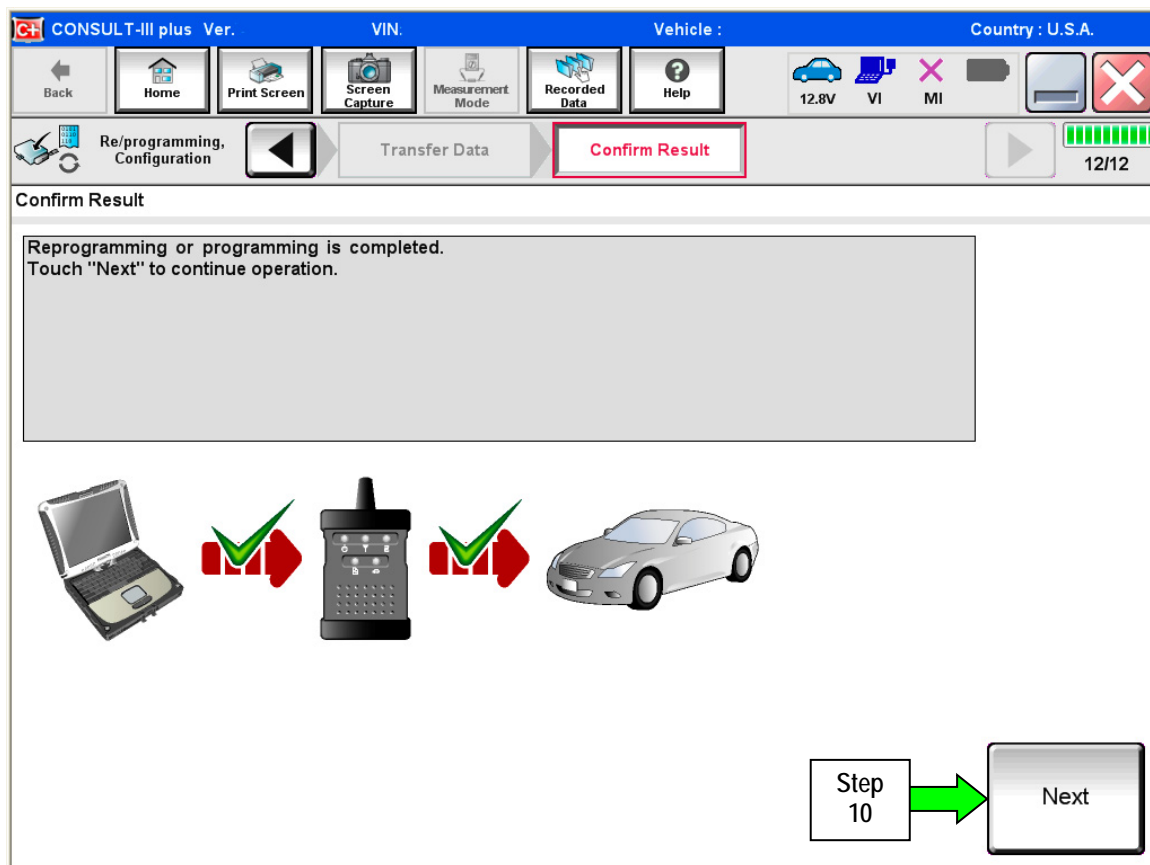

Figure 4
8. When the screen in Figure 4 displays, reprogramming is complete.
**NOTE:** If the screen in Figure 4 does not display (reprogramming does not complete), refer to the information on page 9.